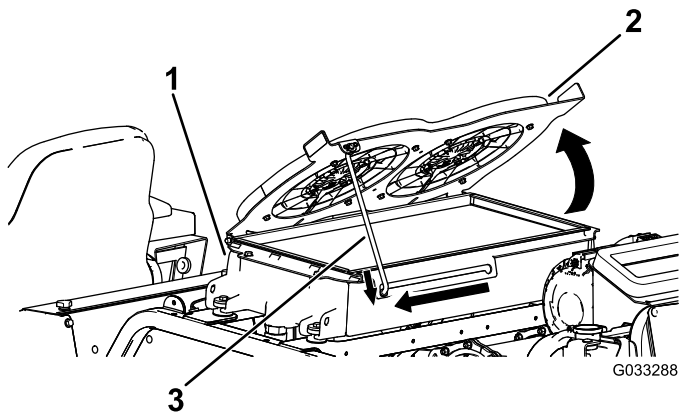

Figure 119
2. Pivot the hydraulic-cooling fans upward and lock the prop rod into the notch (Figure 119).